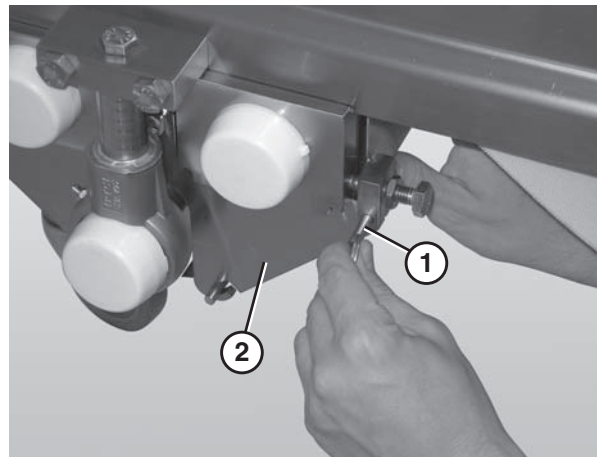

Figure 55
2. Remove the pull pins (Figure 55, item 1) from the center drive side plate (Figure 55, item 2).